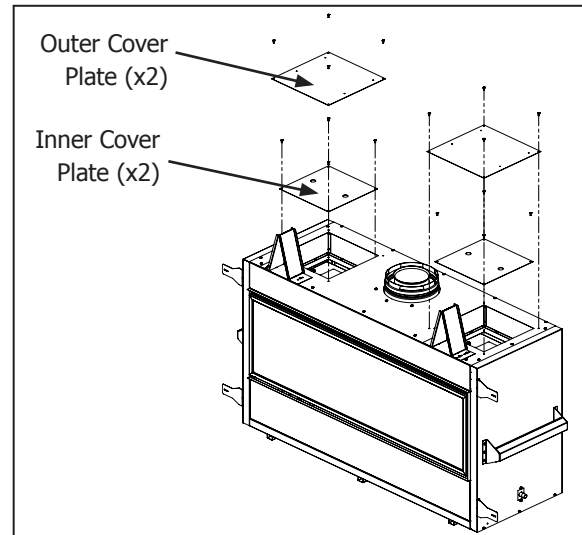

Figure 12. Cover Plate Removal
Step 1: Using a T20 screwdriver, remove the inner and outer cover plates from the fireplace as shown (Figure 12). Each cover plate has four (4) mounting screws. Both sets of cover plates are no longer required and can be recycled. Retain eight (8) of the removed mounting screws to secure the duct collars.